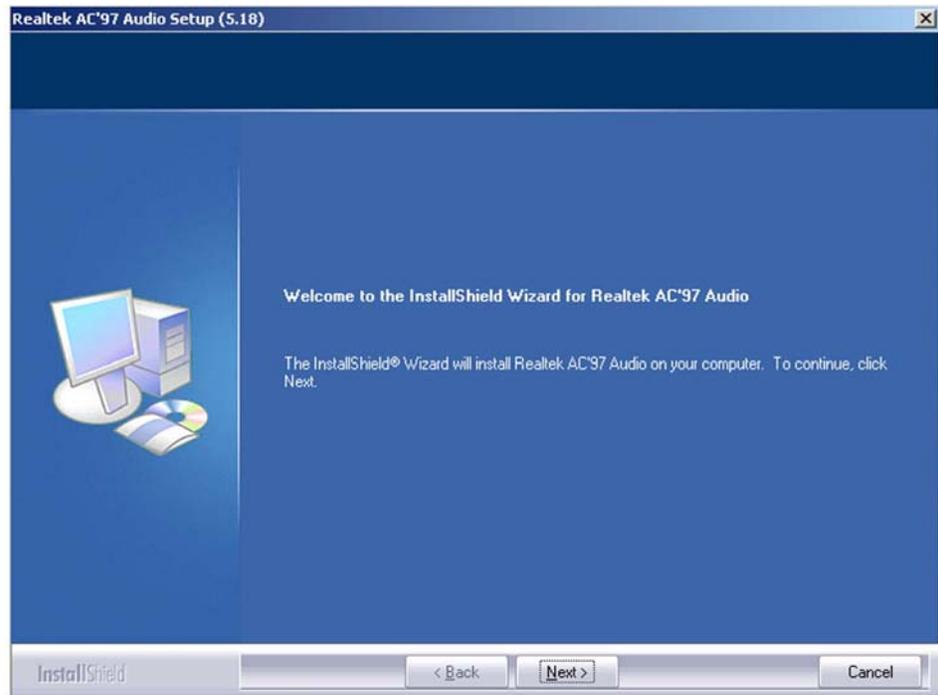
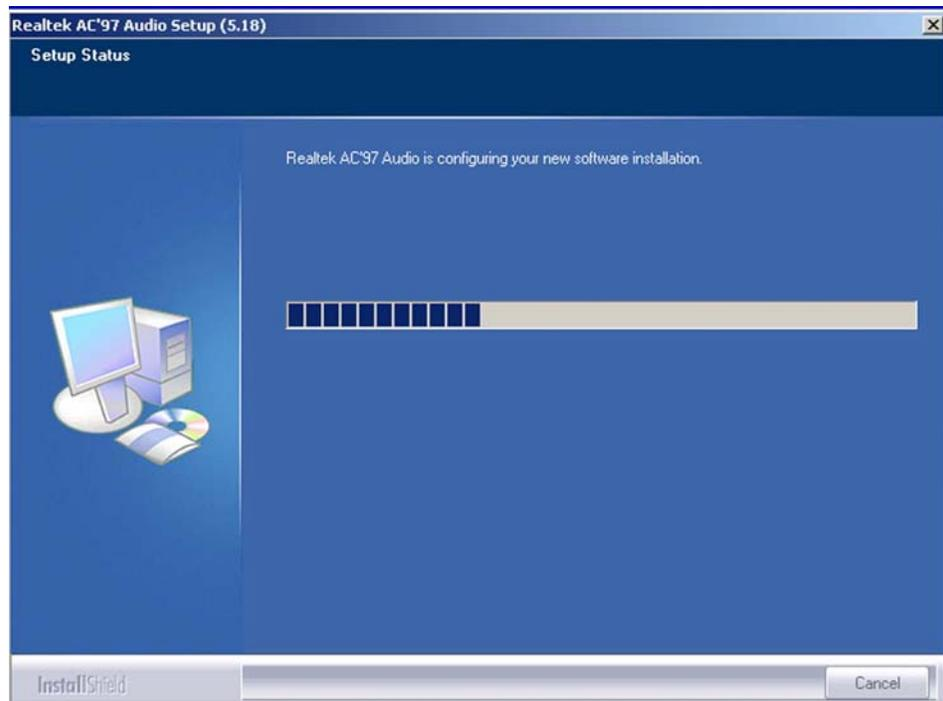

Figure 6-17: Audio Driver Welcome Screen
Figure 6-18: Audio Driver Software Configuration
Step 9: After install shield is prepared, the welcome screen shown in **Figure 6-17** appears. To continue the installation process, click the “**NEXT**” button. The install shield starts to configure the new software as shown in **Figure 6-18**.